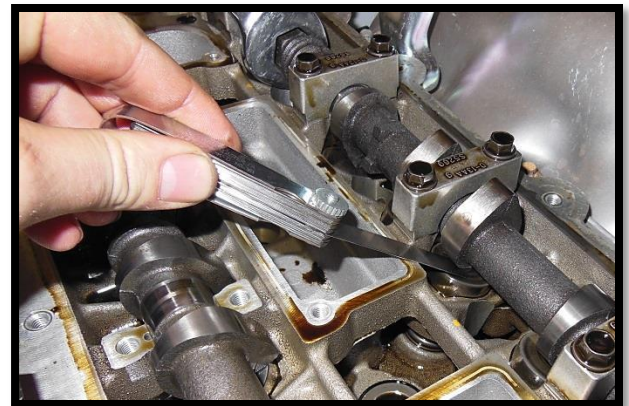

Figure 4b
- c) Use a feeler gauge to measure the clearance between the tappets and camshaft lobes (as pictured in Figure 4b). Record the measured values in the columns on the next page.